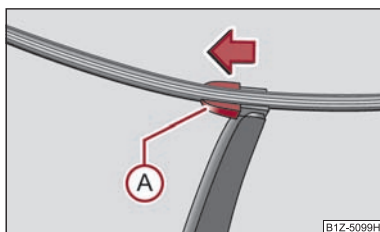

Fig. 52 Wiper blade for the rear window
- Fold windscreen wiper arm out from the windscreen and position the wiper blade at right angles to the wiper arm ⇒ fig. 52.
- With the other hand unlock the locking button (A) in the direction of arrow and remove the wiper blade.